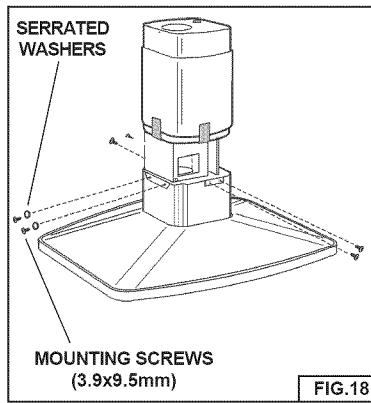

FIG.18
1. Secure the hood to the support frame with (6) 3.9x9.5mm mounting screws and (2) serrated washers. Fig. 18.